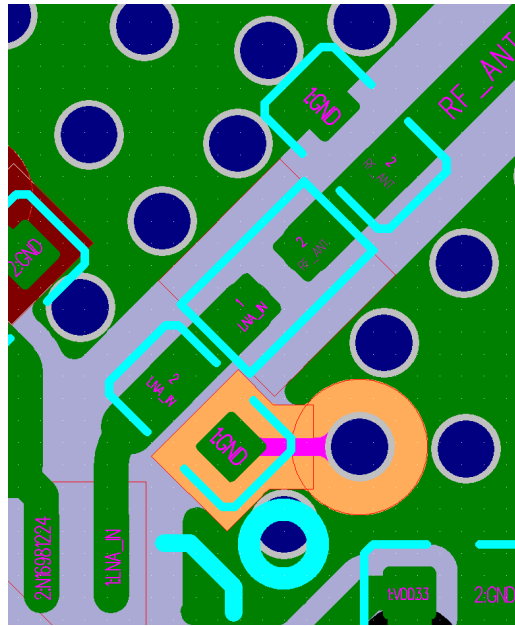

Figure 22: ESP32-C6 Stub in a Four-layer PCB Design
- Please add a stub to ground at the ground pad of the first matching capacitor to suppress second harmonics. It is preferable to keep the stub length 15 mil, and determine the stub width according to the PCB stack-up, so that the characteristic impedance of the stub is $100 \Omega \pm 10\%$. In addition, please connect the stub via to the third layer, and maintain a keep-out area on the first and second layers. The trace highlighted in Figure 22 is the stub. Note that a stub is not required for package types above 0201.